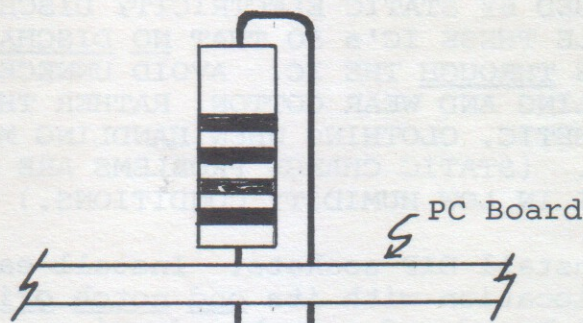

Figure 4-1. R1 through R4 installation.
- () Step 2. Install the following resistors in the indicated locations. Install these resistors vertical to the board as shown in Figure 4-1, solder and trim.